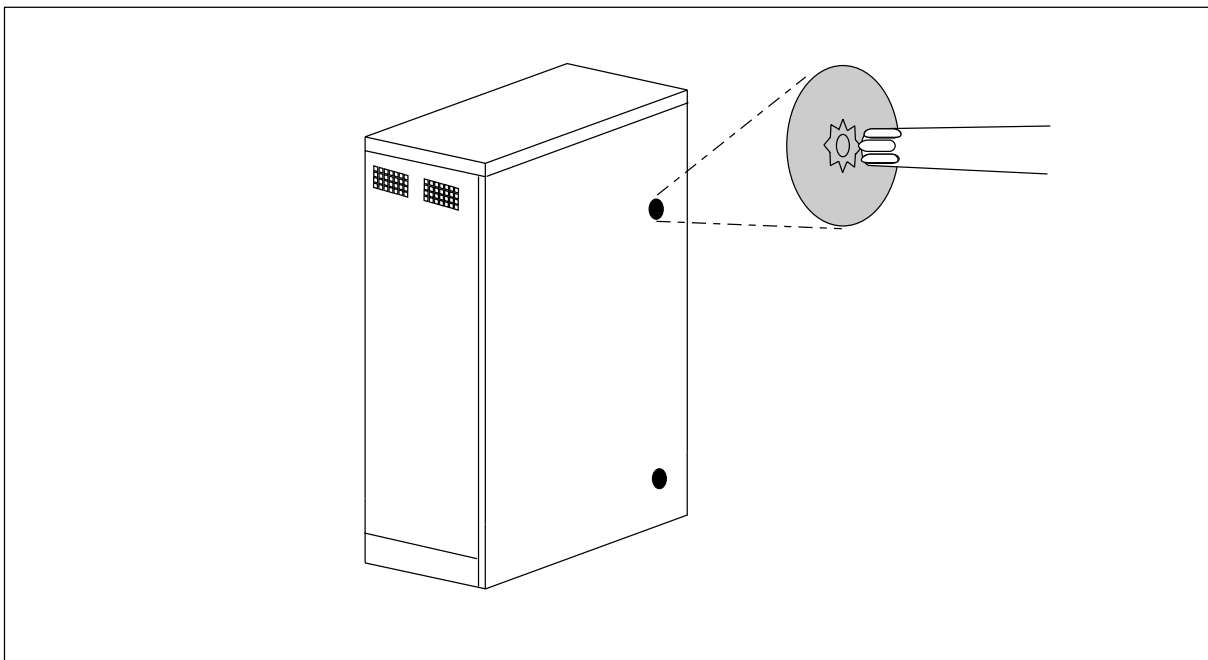

Figure 5-1. Unlocking the RBS Cabinet Door
1. Unlock the door latches as shown in Figure 5-1 on page 5-7